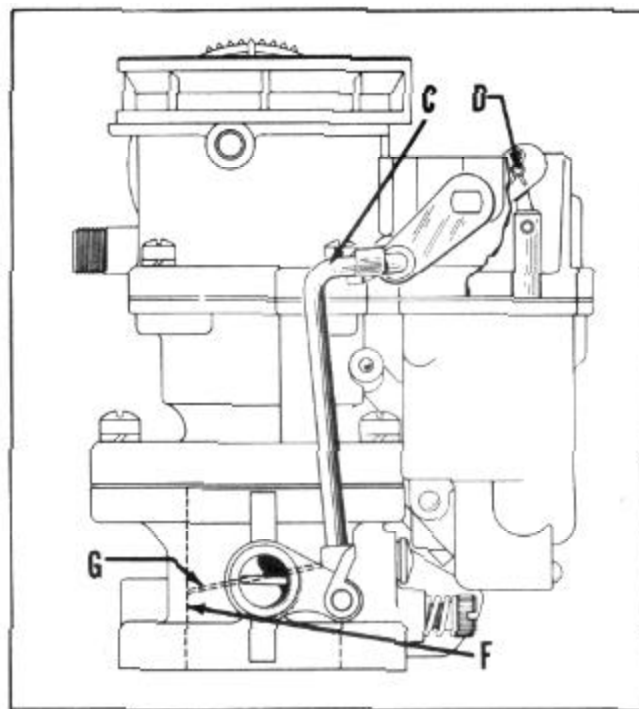

FIGURE 49
1. Back out throttle lever set screw until throttle valves (G) Figure 49, seat in bores (F) of carburetor and leave screw backed out until carburetor is installed on engine.
2. With the pump connector link in the outer hole (ID) in pump arm (long stroke) the pump plunger should travel 5/16" from closed throttle to wide open throttle position.
4. If adjustment is necessary, bend the throttle connector rod at the upper angle (C).